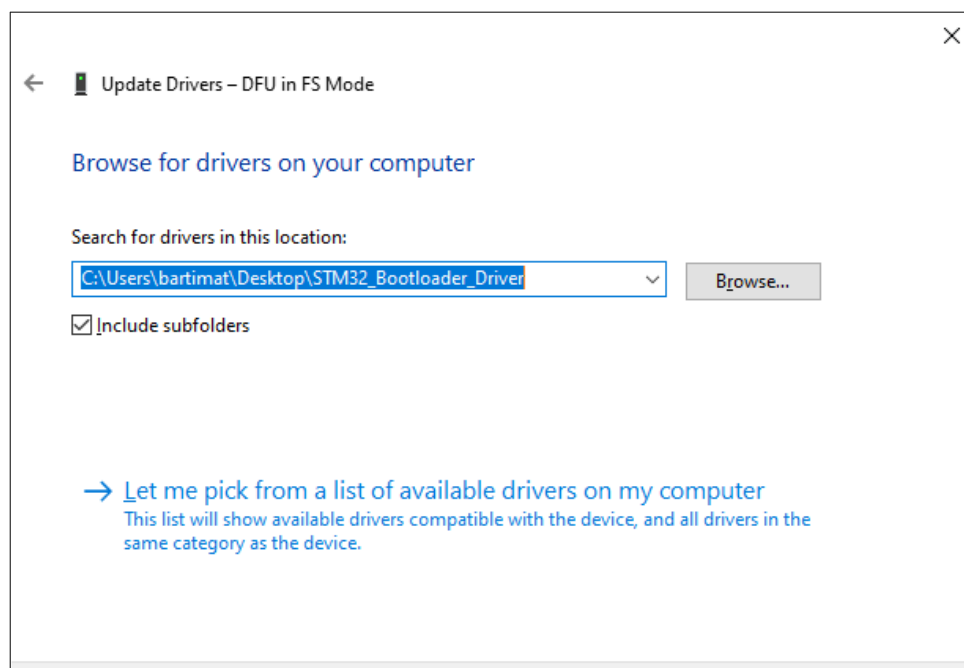

Figure 19: Locate the provided "STM32\_Bootloader\_Driver" directory.
- 4 Browse for the "STM32\_Bootloader\_Driver" directory (have the option "Include sub-folders" checked (see Fig. 19) and press *Next*).